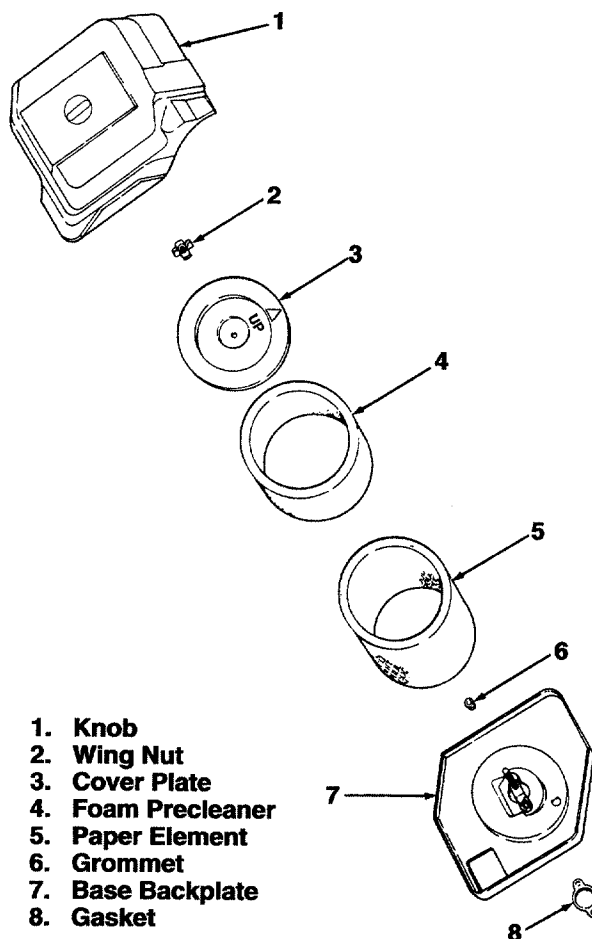

Figure 24. Air Cleaner Assembly.
1. Unfasten the air cleaner cover retaining knob and remove the air cleaner cover (See Figure 24).
2. Remove the foam precleaner by sliding it up off the paper element (See Figure 24).
The air cleaner element cover plate (See Figure 24) must be correctly installed to properly seal against the paper element gasket. Note the position of the "UP" arrow on the cover plate before removing.
6. Inspect the rubber grommet (See Figure 24) for deterioration, cracks, and for a snug fit on the air cleaner stud. Replace if damaged or worn.
The air cleaner element cover plate (See Figure 24) must be correctly installed to properly seal against the gasket of the paper element. The flange on the underside of the cover plate should mate with the collector plate on the air cleaner base.